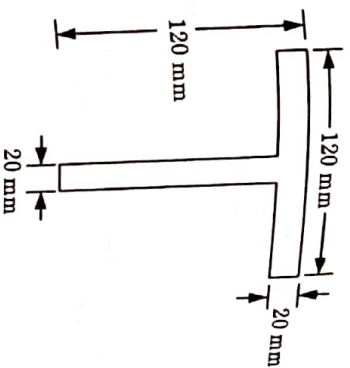

Fig. 3.
e. Define shape factor and obtain its value for T-section with the following dimension shown in the Fig. 3. If the yield stress is 250 N/mm². Find M_p .